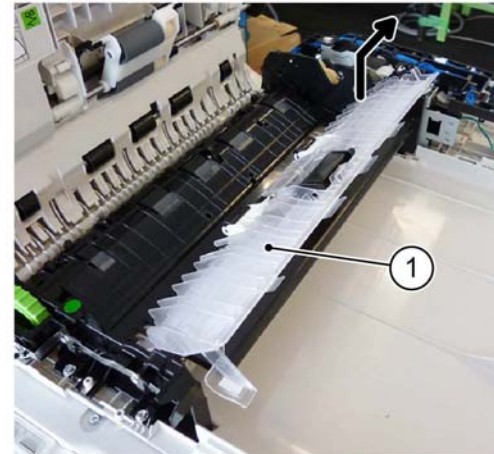

Figure 1 Retard chute assembly removal
5. Remove the retard chute assembly in the direction of the arrow, Figure 1.